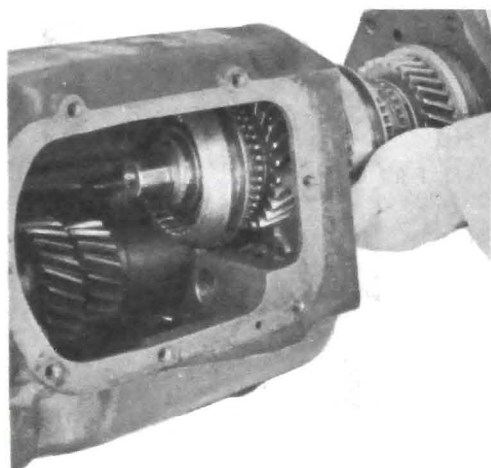

Figure 72-303 Removing Mainshaft Assembly
4. Move 2-3 synchronizer sleeve forward, and from rear of case, remove extension housing and main-shaft assemblies. Remove reverse idler gear from case and third speed blocker ring from main drive gear. See Figures 72-303 and 72-304.